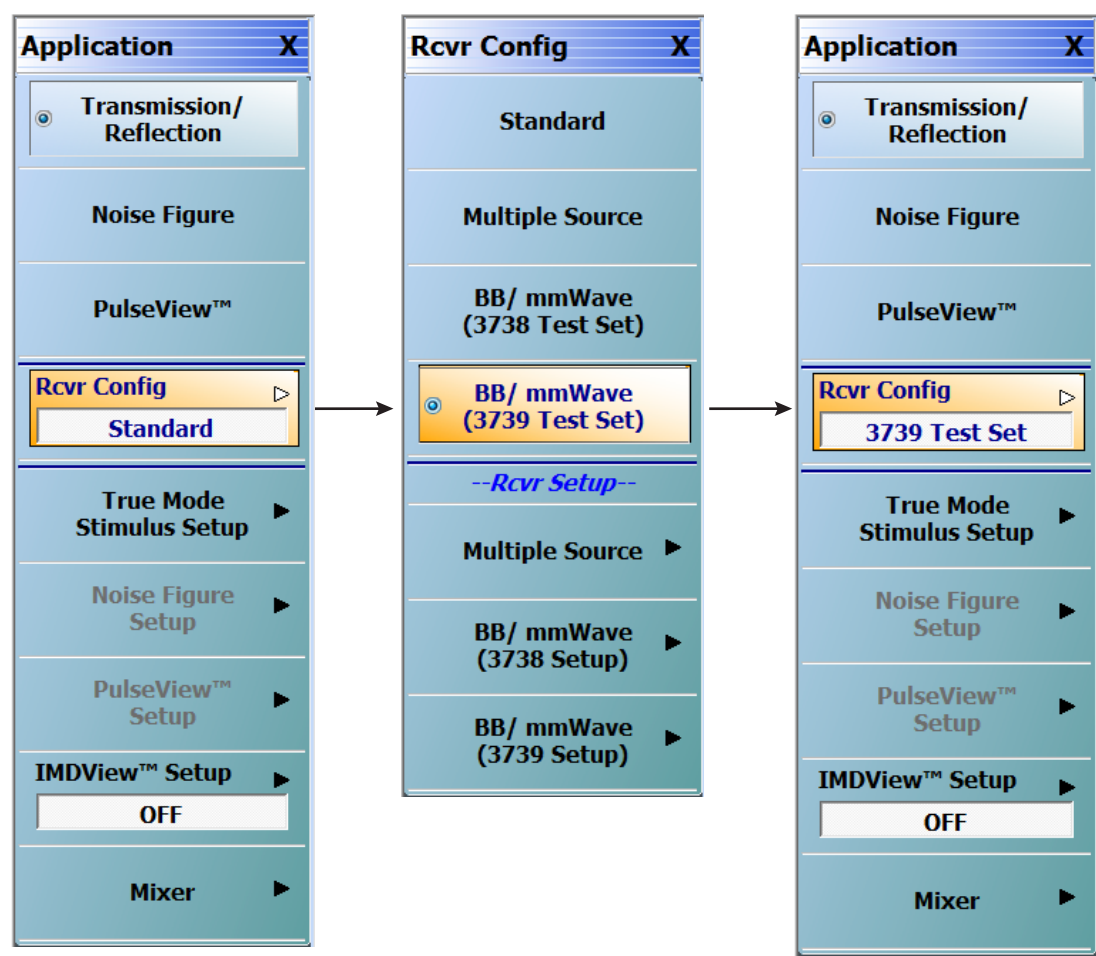

Figure 4-9. APPLICATION Menu – Receiver Configuration to 3739 Test Set (MS464xB Systems)
- 3. At the MAIN menu, select Application. The APPLICATION menu appears as shown in Figure 4-9 on page 4-10.